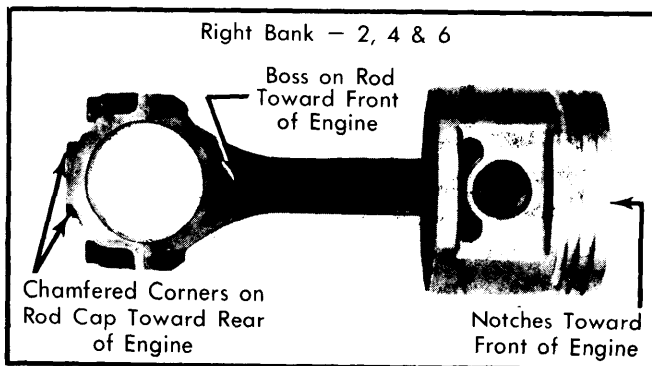
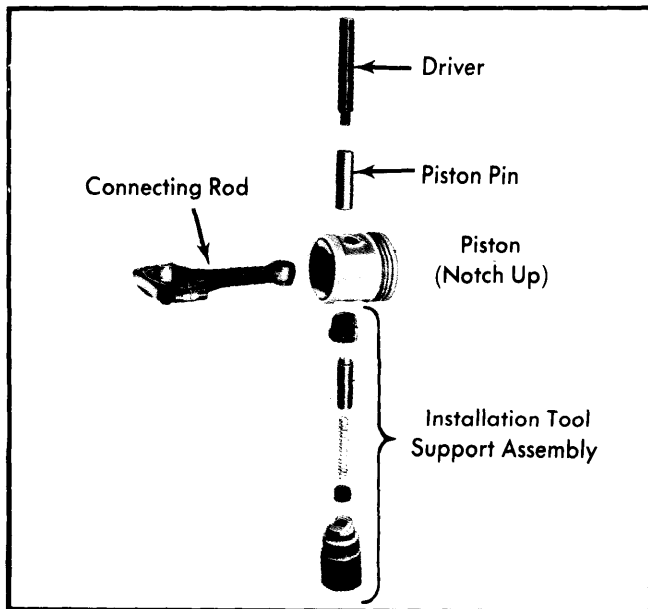

Fig. 8 Right Bank Piston & Rod Assembly for V6
Fig. 12 Piston Pin Installation
2) Place bearing insert in rod and install guides on rod bolts. Compress piston rings using suitable ring compressor. Position piston in bore so that notch in top of piston is facing toward front of engine. Push piston into bore, carefully guiding rod over crankshaft until bearing is seated against journal. Remove guides and install rod cap and bearing. Tighten rod nuts. See Figs. 8 through 11.
1) Piston pin is selective press fit in connecting rod. Using a suitable tool set and a press, remove piston pin and separate piston and connecting rod. See Fig. 12.
2) Inspect pin for wear or scoring. Check clearance of pin in piston. If clearance is excessive, piston and pin assembly must be replaced. Place piston on rod in correct position depending on which bank piston and rod are being installed in. See Figs. 8 through 11. Lubricate piston pin and press into piston and rod using a suitable tool and press. See Fig. 12.